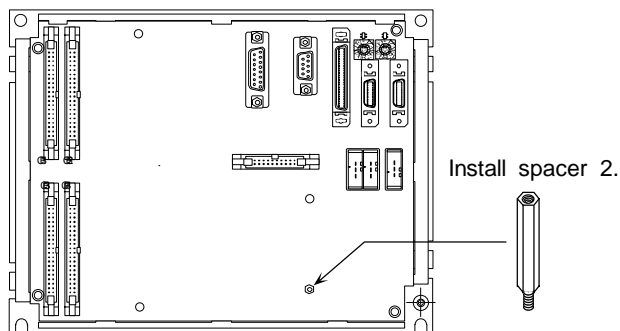

Fig. 3
3. Install the attached spacer 2 (screw holes on one side are male) to the hole of screw 1 that was removed from the base I/O unit. (Fig. 3)